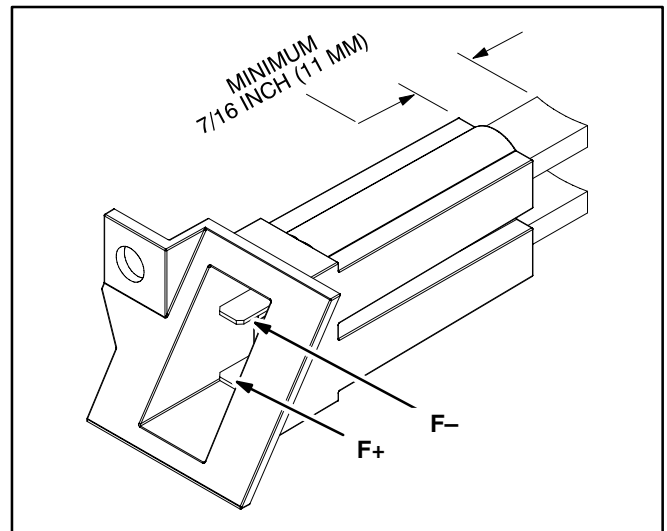

FIGURE 8-2. BRUSH BLOCK
3. Remove the brush block (Figure 8-2).
Service: Disconnect the field leads from the brush block (Figure 8-2), remove the mounting screw and withdraw the brush block from the generator end bell. Replace the brush block assembly if either brush is shorter than 7/16 inch (11 mm), binds in the brush block or is damaged in any way.